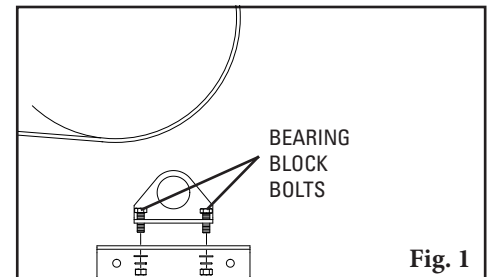

**Fig. 5**
- 10. Check for Correct Blade Tip Tension.** Place the Tip Tension Gauge between the blade tip and belt on the centre tip (or tips) (Fig. 5). While pulling in a straight motion, read the tension required to break contact between the tip and belt. 13Kg is recommended. Also check tension on both outer tips. Make tension adjustments if needed.